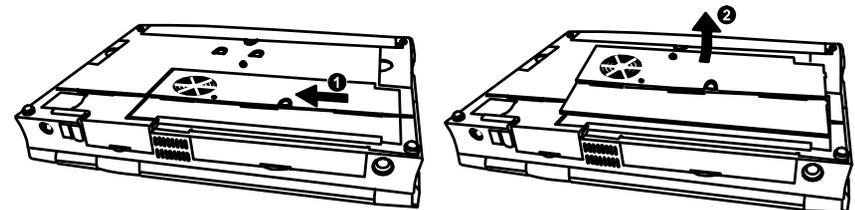

Figure 7-16. Removing the Compartment Cover
2. TO REPLACE THE COMPARTMENT COVER, FIRST INSERT THE COVER OUTER EDGE(NEAR THE REAR OF THE NOTEBOOK)AT AN ANGLE, PUT DOWN THE COVER, AND THEN SLIDE IT TOWARD THE RIGHT. SECURE WITH ONE SCREW. (ref fig 7-16,7-16)